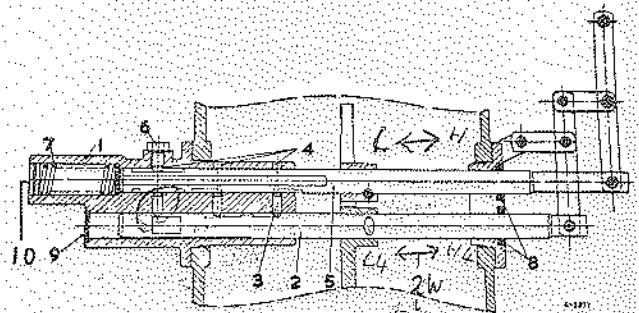
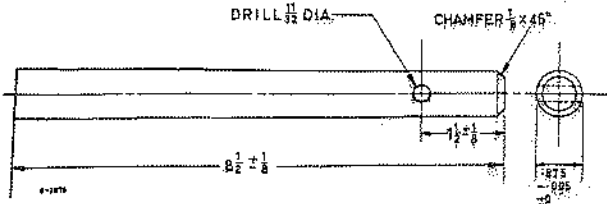
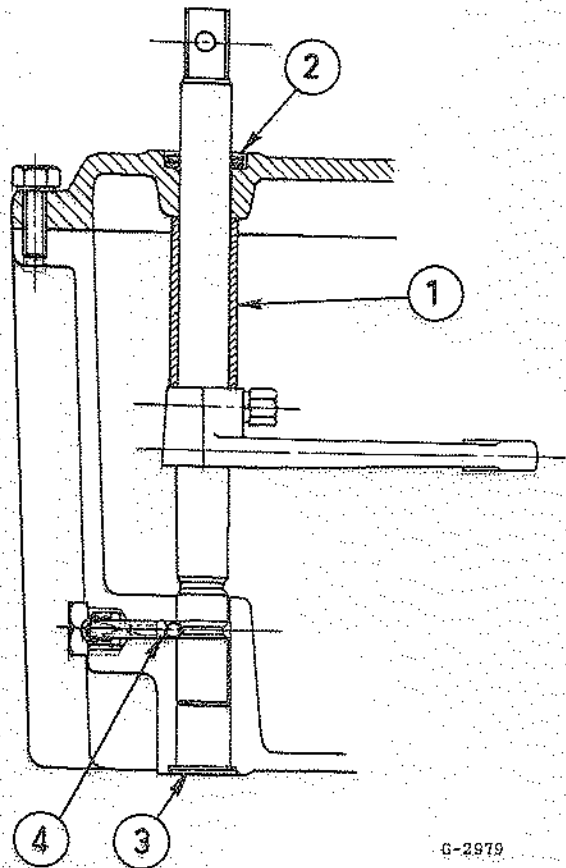

Fig. 8 - Shift rod housing assembly
Fig. 9 - Tool special
Fig. 12 - Power take-off shift
#### L - To Assemble the Selector Mechanism (Bench Work) (Refer to Fig. 8)
1. Hold the shift rod housing (1) in a vice and slide in the F.W.D. shift rod (2) until the central locating groove can be seen through the side of the housing.
2. Drop in the three interlock plungers (3) through the holes in the housing (4) using the special tool (Figs. 9 and 10).
3. Insert the R.W.D. shift rod (5) until the locating groove closest to the centre can be seen through the housing.
4. Screw in the stop screw (6). Check to ensure that the rods are free and operating correctly in the housing. When assembly is correct the following conditions will exist:
- B. The R.W.D. shift rod will slide freely to the right (Fig. 8) and this movement will release the F.W.D. rod, which will then slide freely to the right and lock the R.W.D.
7. Assemble the P.T.O. shift rod and fork (boss towards the flats on the rod). Insert the locking bolt and washer and tighten. Assemble the clutch ring to the shift fork and assemble in the case by inserting the shift rod in the case bore and mating the clutch ring with the shaft. Assemble the spacer over the shift rod (1) Fig. 12.
9. Press the small seals into the case cover and the shift rod guide (8) Fig. 8, and (2) Fig. 12 if replacement is necessary.
12. Assemble the locating balls, springs, plungers and retaining screws in the case and shift rod housing (4) Fig. 12 in the case, and 2 others in the shift rod housing.
17. Assemble the R.W.D. shift rod spring (7) Fig. 8, in the housing with one of the discs at each end of the spring, compress the spring and assemble the circlip in the groove.
20. If the welch plugs have been removed, press new plugs into place as shown at (9) and (10) in Fig. 8 and at (3) in Fig. 12.